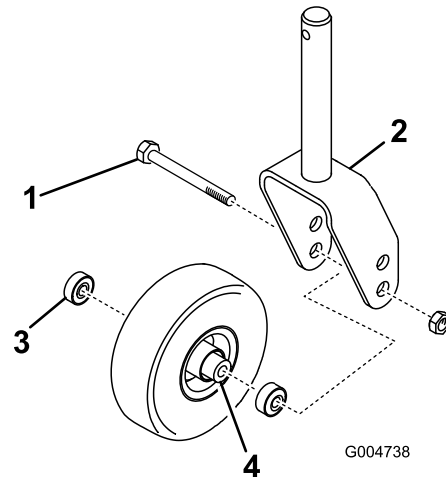

Figure 141
1. Remove the locknut from the bolt holding the caster-wheel assembly between the caster fork or the caster-pivot arm (Figure 141).
2. Grasp the caster wheel and slide the bolt out of the fork or pivot arm (Figure 141).
3. Remove the bearing from the wheel hub and allow the bearing spacer to fall out (Figure 141).
4. Remove the bearing from the opposite side of the wheel hub (Figure 141).